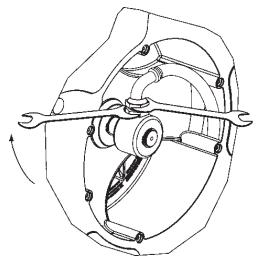

Fig. 16
- Unscrew the nuts with two spanners (Fig. 16).
- Con dos llaves, aflojar la manguera de la rótula (Fig 16).